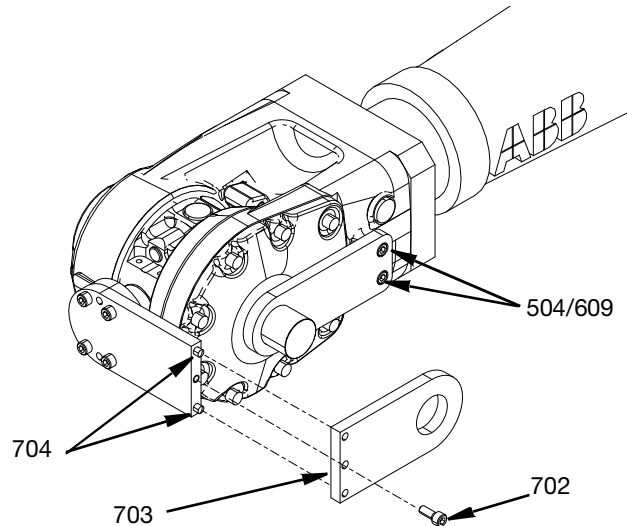

FIG. 9
3. Put the ABB axis calibration bracket (703) in place without forcing it by putting the trunnion of the ABB robot bracket (509/604) through the hole. Align using 6 mm dowel pins (704) and tighten SCH cap screw (702).
4. Tighten screws (504/609) on the frame. Torque to 98.2 in-lbs (11.1 N•m). See FIG. 9.